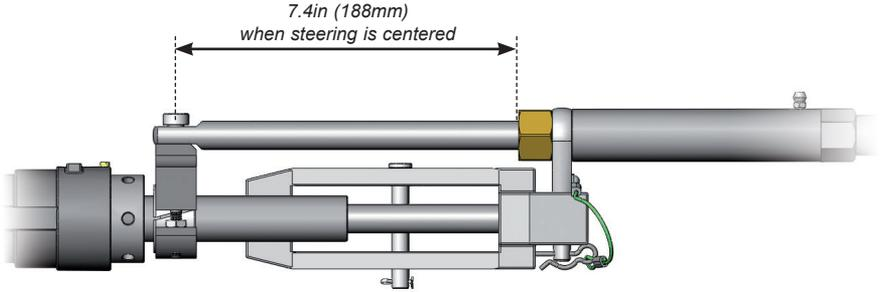

Fig B17 - Positioning the drive collar
- v) Use the manual helm to set the steering to the midstroke position. Adjust the position of the drive collar so that there is a 7.4in (188mm) gap between it and the front face of the steering cylinder (Fig B17). Tighten the drive collar clamp screw and torque to 175in-lb (19Nm). Tighten the drive collar lock nut and torque to 45in-lb (5nm).